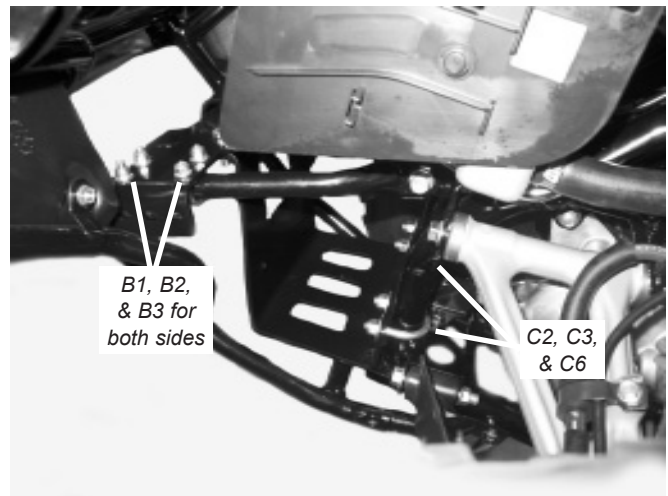

Figure 4 Attach U-bolts
6. Attach the upper mounting bracket (A1) to the front tube frame using four 6mm dia x 24mm wide U-bolts (B1), and eight 1/4" dia flat washers (B2) and 6mm dia nylock nuts (B3) as shown in figure 4. Tighten the nuts to a recommended torque of 7 ft-lb (10 N-m).
7. Attach the lower mounting bracket (A2) to the front tube frame using two 5/16" dia x 1-1/4" wide U-bolts (C2), and four 5/16" dia flat washers (C3) and 5/16" dia nylock nuts (C6) as shown in figure 4. Tighten the nuts to a recommended torque of 14 ft-lb (19 N-m).